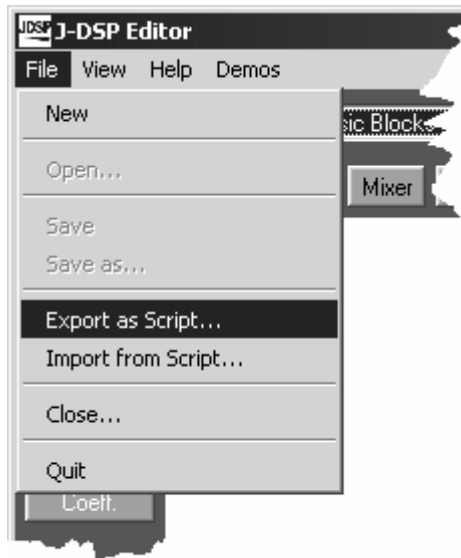
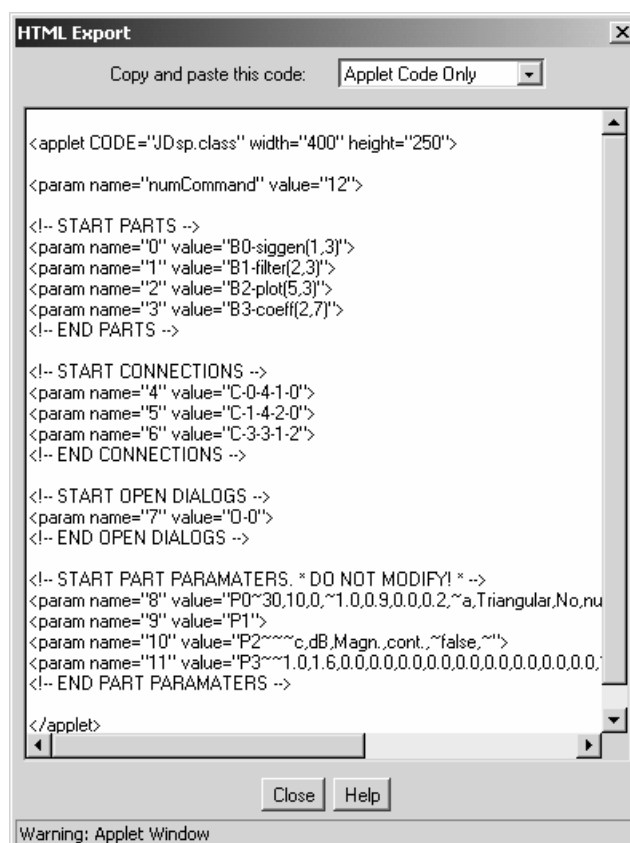

Figure 1: Selecting *File* and then *Export as Script*
Figure 2: J-DSP script window
Step 2: From the main menu, select "*File*" and then "*Export as Script*" as shown in figure 1. A new window appears that contains the code describing the simulation, as shown in figure 2. This will be referred to as the J-DSP script window. Note that by default, the window presents only the applet code which can be placed inside the body of an existing HTML file. If the entire HTML file is needed, select "*Applet in HTML code*" from the drop down box of the script window.